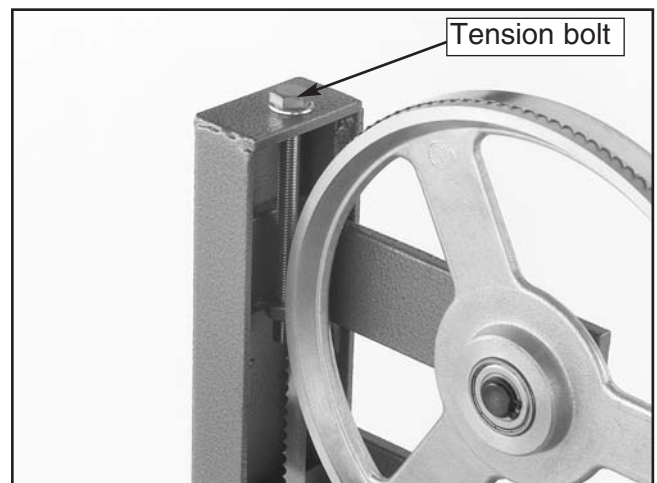

Figure 35. Blade tension bolt.
3. Turn the tension bolt (shown in **Figure 35**) counterclockwise to decrease the tension and clockwise to increase the tension.